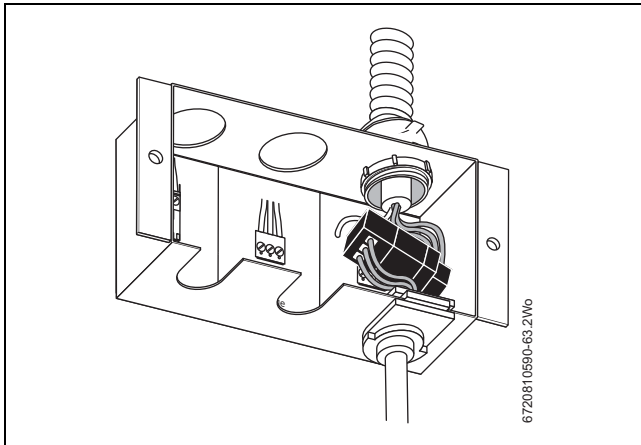

Fig. 45 Cable connected (external pump)
- ▶ Insert cable into the junction box as shown in Fig. 45.